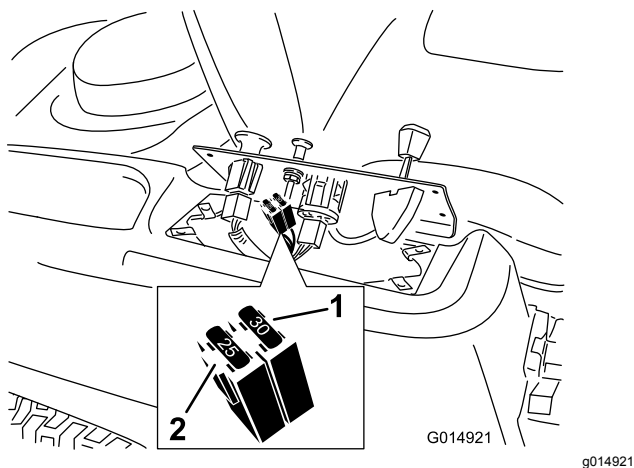

Figure 43
2. Lift the control pane up to access the main wire harness and fuse block (Figure 43).
3. To replace a fuse, pull out the fuse to remove it (Figure 43).